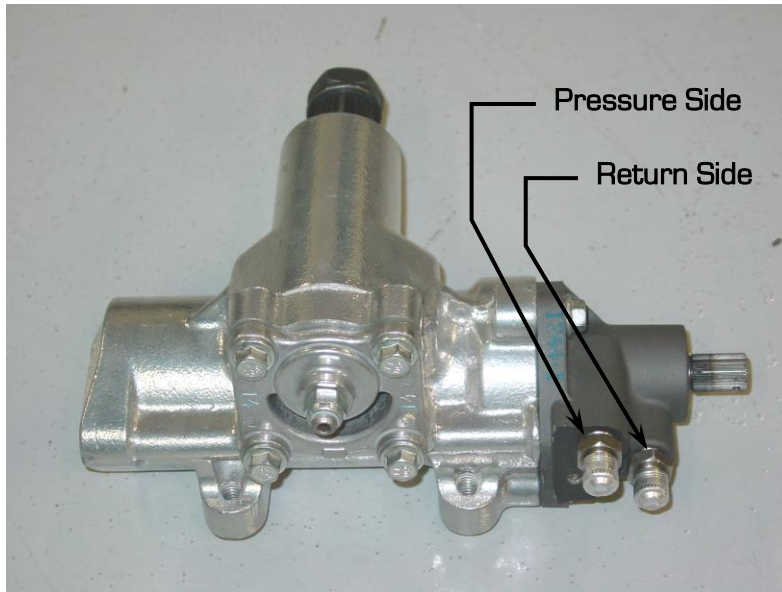

Figure 2 – Pressure & Return Ports
9. Attach the power steering hoses to the steering gear. Make sure the pressure and return hoses are installed into the correct ports. Both ports are O-ring type. The pressure port fitting size is M18 x 1.5mm and the return port fitting size is M16 x 1.5mm (Figure 2 on the next page). Detroit Speed has a full line of hoses and fittings to complete your power steering system.